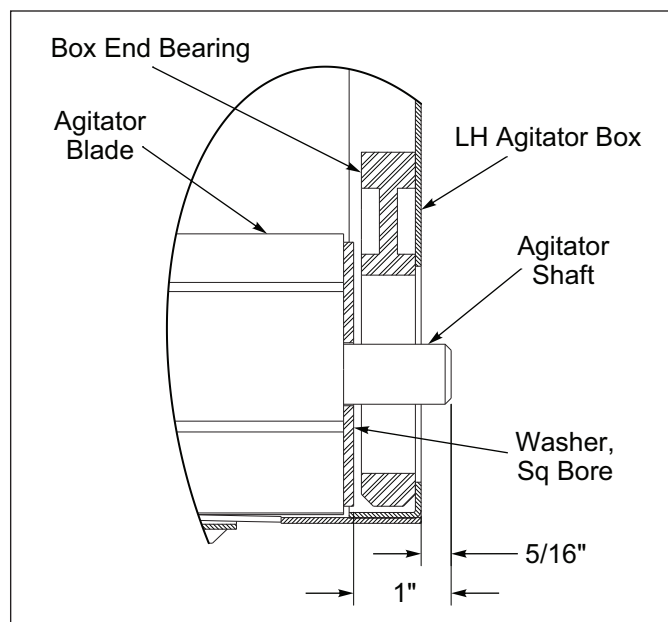

Figure 2-55: LH Agitator Box Center Detail
13. Verify Agitator Shaft to Transmission Drive Coupler engagement. LH Agitator Seed Box Assembly end by the Center Extended Support Bracket, measure the distance from the end of the Agitator Shaft to the Square Bore Washer. It should be approximately 1". **See Figure 2-55.**